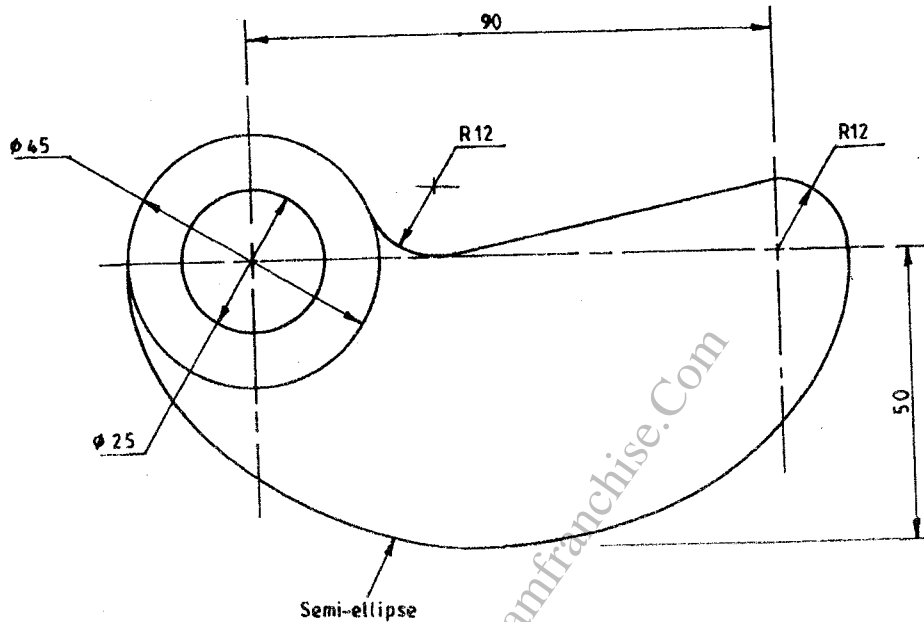

Figure 2
2. Figure 2 shows a cam. Draw the cam, full-size, showing clearly the construction lines. Include **four** dimensions. (15 marks)